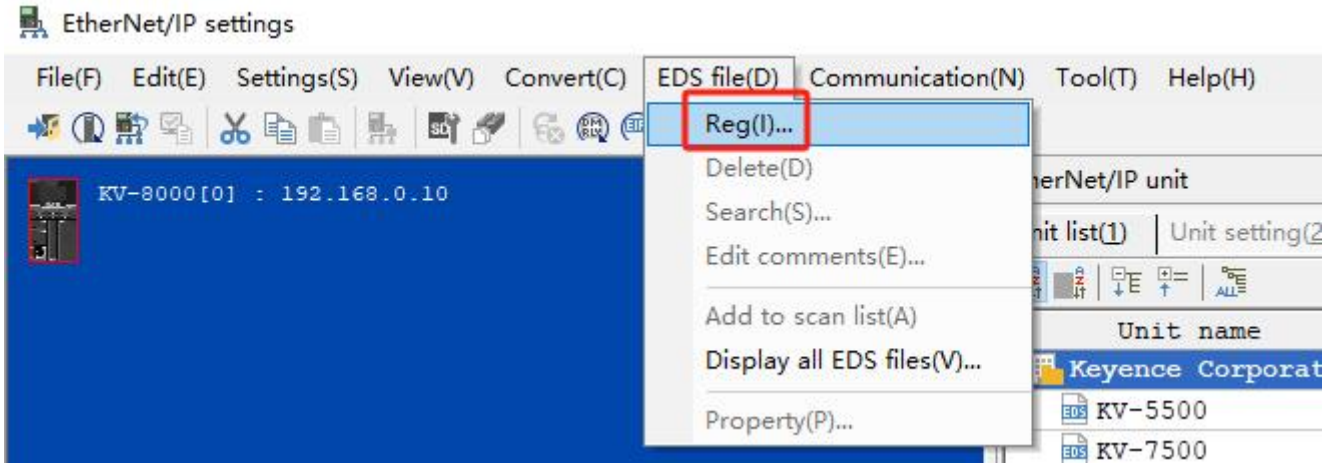

Figure 4-1-7
- As shown in Figure 4-1-7, Figure 4-1-8 and Figure 4-1-9, select "EDS File" in the EtherNet/IP window tab, click "Login" in the drop-down options, and select the EDS file corresponding to the adapter DF50-C-EN-IP to log in to the project :